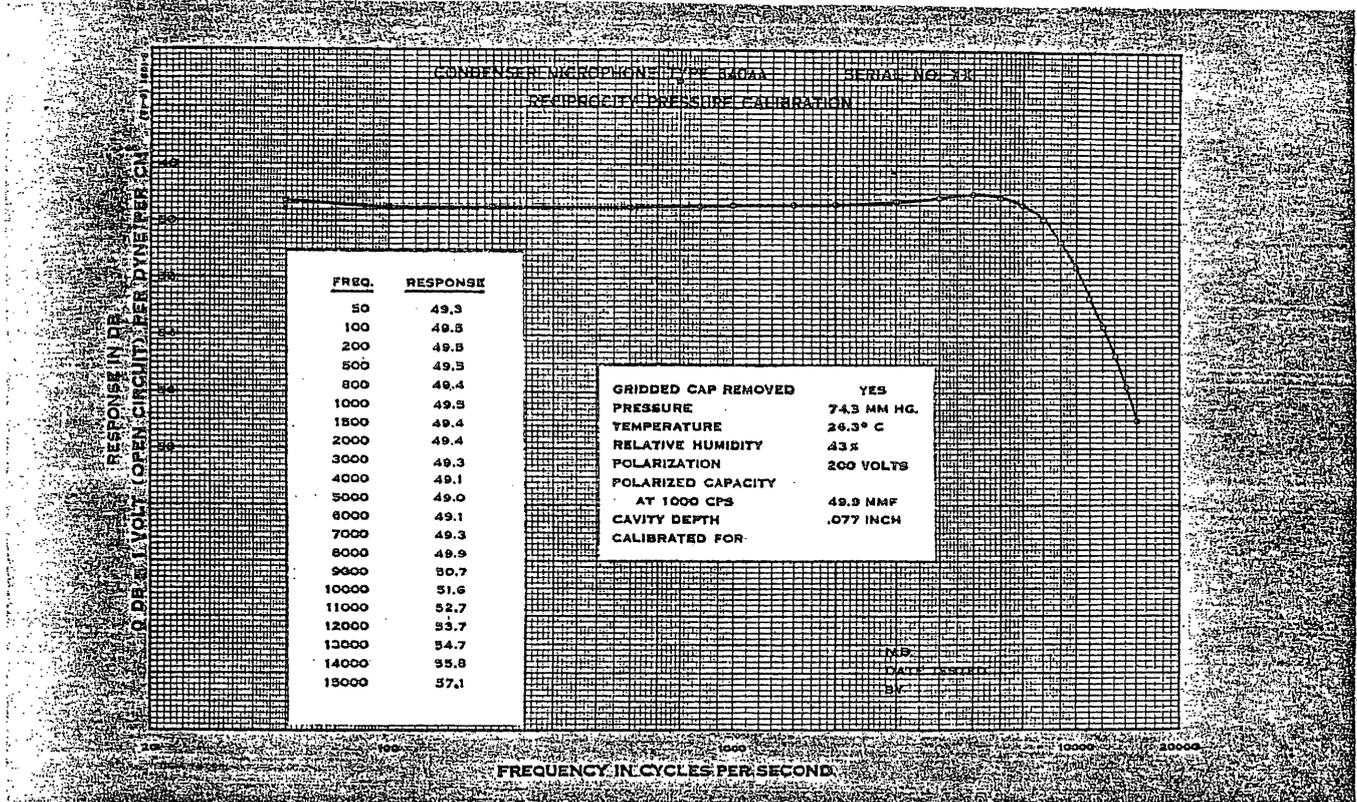
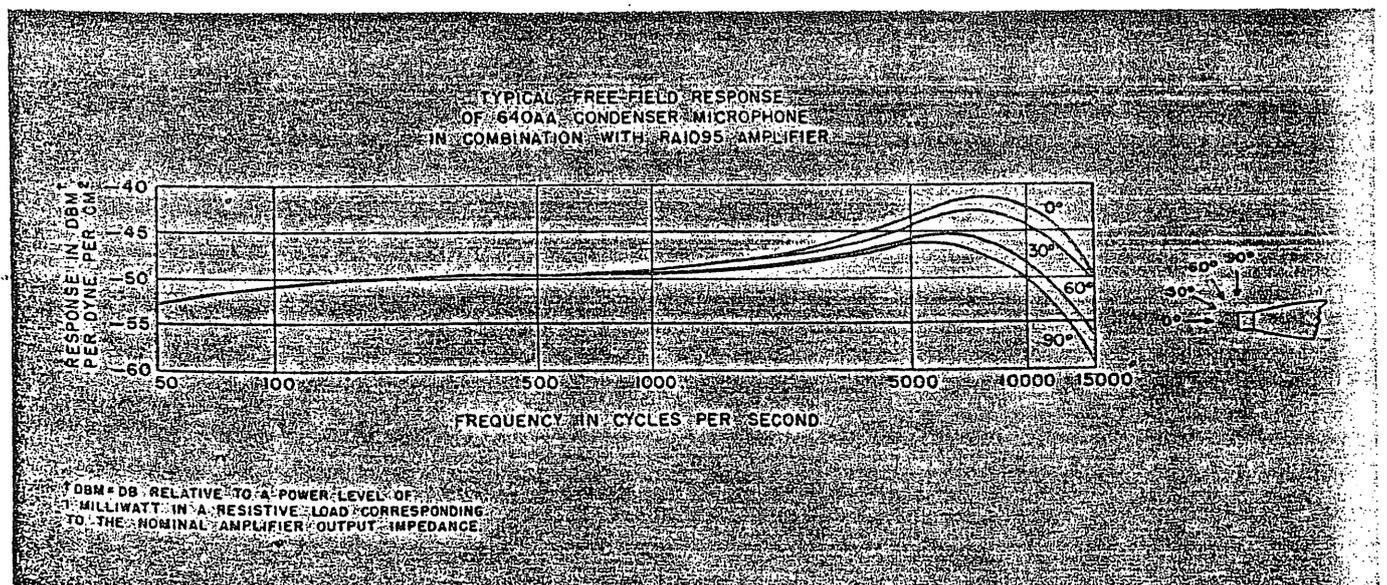

Figure 9 — Typical Pressure Calibration Chart of 640AA Condenser Microphone.
Figure 10 — Typical Free-Field Response Curve of the 640AA Microphone Mounted on the RA-1095 Amplifier.
The pressure response characteristic shown in Figure 9, which is applicable only to measurements in small chambers, is approximately constant to 6,000 cycles per second and then falls off uniformly to the extent of about 8 db at 15,000 cycles per second. Being a condenser microphone it is designed to work into a high impedance grid circuit of a closely associated amplifier stage. The pressure response level of the microphone unit (less amplifier), in the 50 to 6,000 cycle range with 200 volts polarizing potential, is approximately 49.5 db below 1 volt (open circuit) per dyne per square centimeter. Pressure and free-field levels are identical from 50 to 500 cycles per second.
A chart (see Figure 9) is supplied with calibrated microphones which, in addition to the pressure response curve and the points of calibration on which it is based, shows the conditions under which the calibration was obtained and gives the polarized capacity at 1000 cycles.
- Frequency Response:** Pressure Response—See Figure 9.
Free-Field Response—See Figure 10.
The free-field response characteristics of the 640AA Microphone mounted on the RA-1095 Amplifier are shown in Figure 10. The difference in shape between the zero degree free-field curve, and the pressure calibration shown in Figure 9, is due almost entirely to diffraction effects which result when the microphone is placed in a free sound field, and not to the amplifier which has practically no effect on the shape of the response characteristic. The range covered, it will be noted, is admirably suited to the highest quality sound system requirements. With the line of sound approach normal, or perpendicular to the plane of the diaphragm, (0 degrees), the response is approximately constant for sounds in the frequency range between 50 and 1,000 cycles per second. Above 1,000 cycles the response rises gradually to a maximum of about 8 db at 8,000 cycles, then drops uniformly to a level which at 15,000 cycles is roughly equal to that at 1,000 cycles per second.
As illustrated in Figure 10, the response of the 640AA Microphone varies somewhat in the higher frequencies, depending on the direction from which the sound wave approaches the diaphragm.
The output level of this efficient combination for a given sound field is about 28 db higher than the 639 type high quality studio microphones, and the signal-to-noise ratio compares favorably (see specifications). The frequency response characteristic of the amplifier is such as to assure optimum results from the use of the 640AA Microphone as an ultra-faithful pick-up device. The free-field frequency response characteristics for the combination are shown in Figure 9.
Frequency Response: See Curve Figure 10.